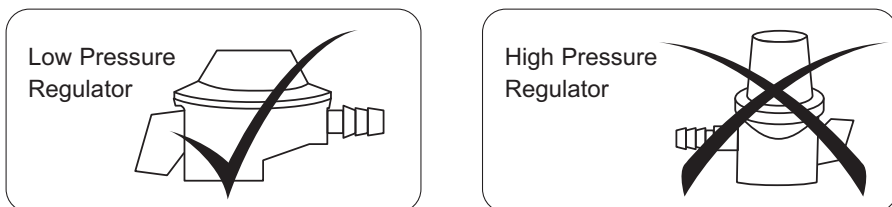

Figure 4
4. Use only low pressure regulator for this appliance. (as shown in figure 4)